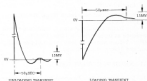

Figure 5-8. Transient Response Waveforms
l. Adjust 25K potentiometer until a stable display is obtained on oscilloscope. Waveforms should be within the tolerances shown in Figure 5-8 (output should return to within 15 mV of original value in less than 50 microseconds).